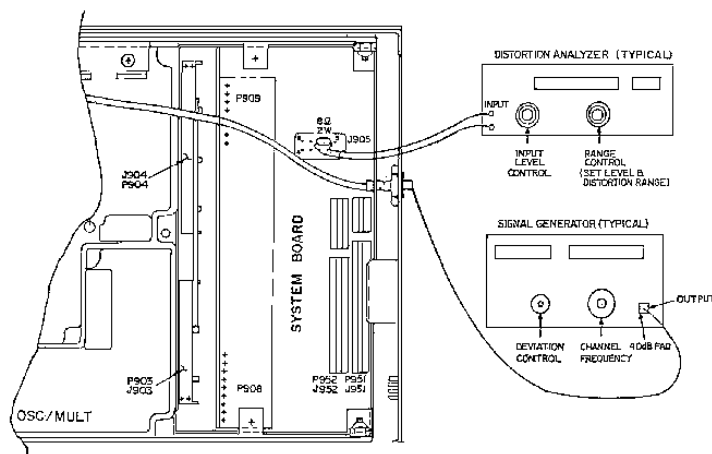

Figure 8 - Receiver Test Setup
- Connect the test equipment to the receiver as shown in Figure 8 for all steps of the receiver Test Procedure.